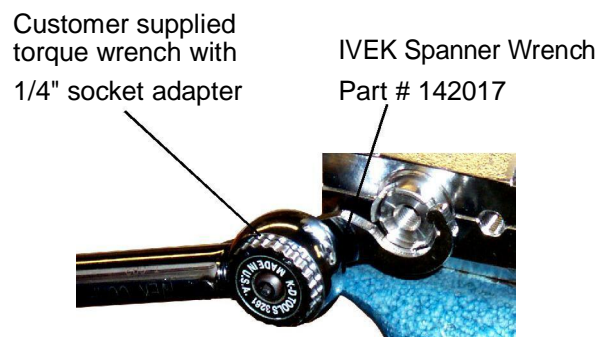

Figure 7.4 Torque Setup for Castellated Sleeves
1. Slide ceramic cylinder (8) with seals (7 and 9) into case (4). Make sure the groove on ceramic cylinder (8) lines up with the pin on case (4).
2. Secure sleeves (5 and 6) to case (4) by turning in a clockwise direction, finger tighten.
3. Slide washer (10) onto valve fabrication (12).
4. Install ceramic valve fabrication (12) and washer (11) into ceramic cylinder (8) by slowly pushing and turning ceramic valve fabrication (12) while holding case (4).
5. Secure end cap (13) to case (4) by turning in a clockwise direction.
6. Position washer (3) on ceramic cylinder (8) so hole in washer (3) lines up with hole in ceramic cylinder (8).
7. Secure end cap (2) to case (4) by turning in a clockwise direction.
8. Install ceramic piston fabrication (1) into ceramic cylinder (8) by slowly pushing and turning ceramic piston fabrication (1) while holding case (4).
9. Install sleeves (5 and 6) into case (4).
10. If supplied, torque castellated sleeves (5 and 6) to 12 in lbs. (1.356 N m) as shown in Figure 7.4.